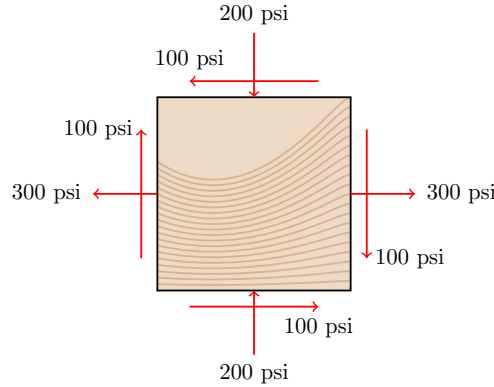

Figure 1
3. At a particular point in a wooden member, the state of stress is as shown in Fig.1. The direction of the grain in the wood makes an angle of $+30^\circ$ with the x -axis (i.e, horizontal axis). The allowable shear stress parallel to the grain is 150 psi for this wood. Is this state of stress permissible? Verify your answer by calculations.